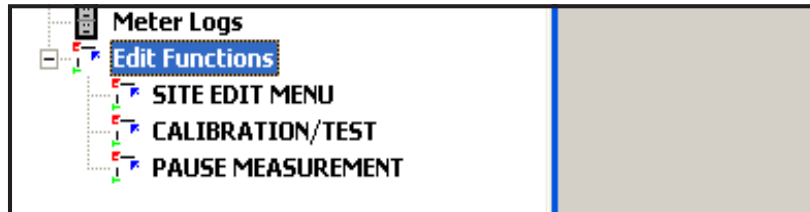
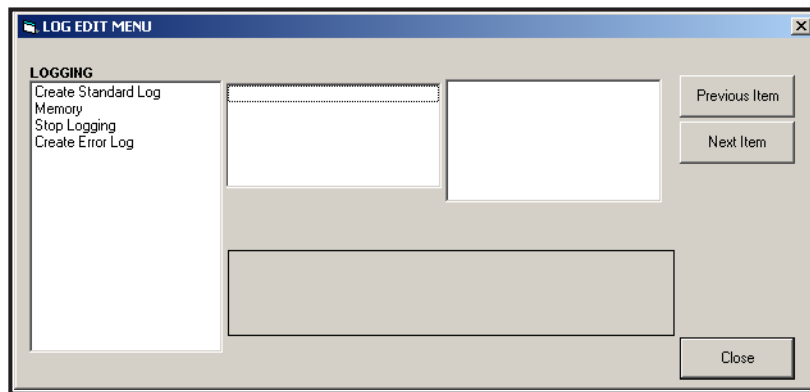

Figure 10: Edit Functions Menu for XGF868i with Logging Card
Figure 11: Log Edit Menu Window
1. From the *New Meter Browser* in PanaView, expand the network tree and open the *Edit Functions* option (described in Appendix C, *Programming the XGF868i via PanaView*). The menu will appear similar to *Figure 10* Below.
2. Double-click on the *Log Edit Menu*, as shown in *Figure 10* above. The window appears similar to *Figure 11* below.